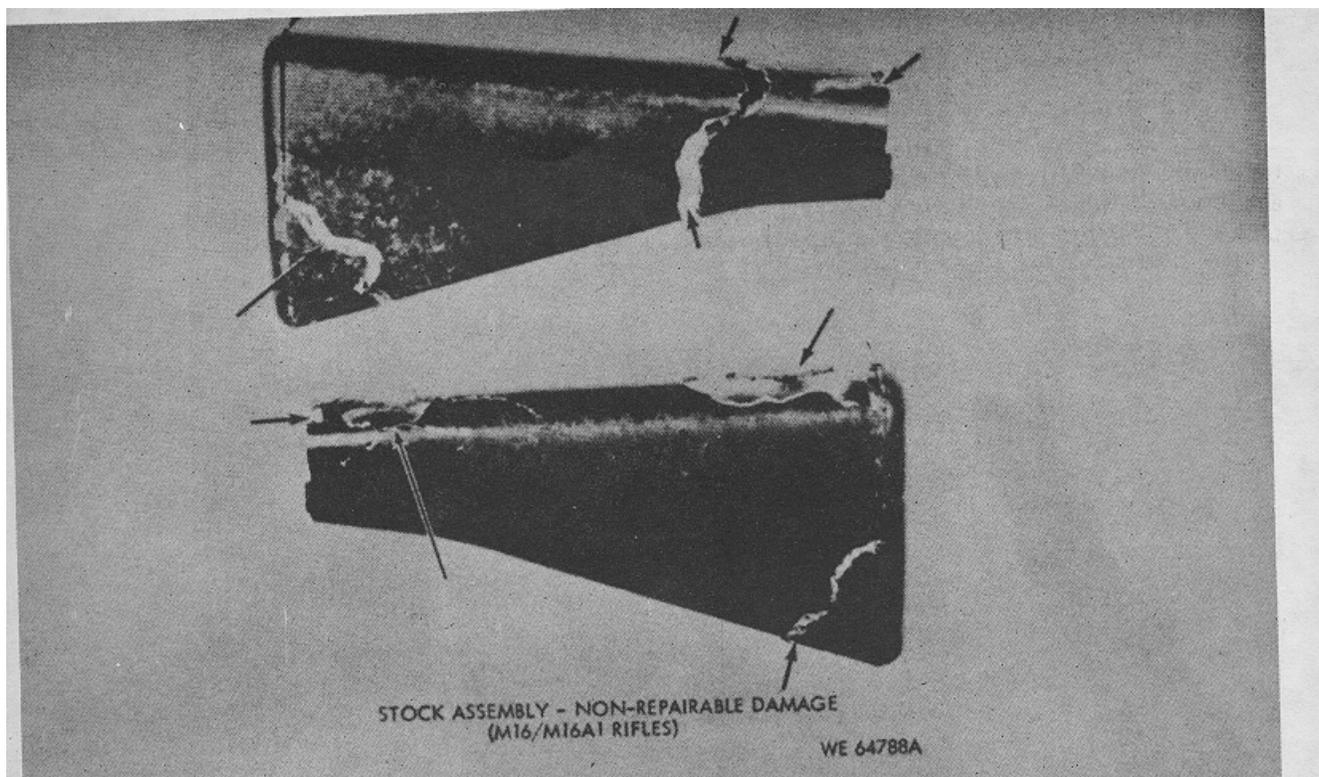
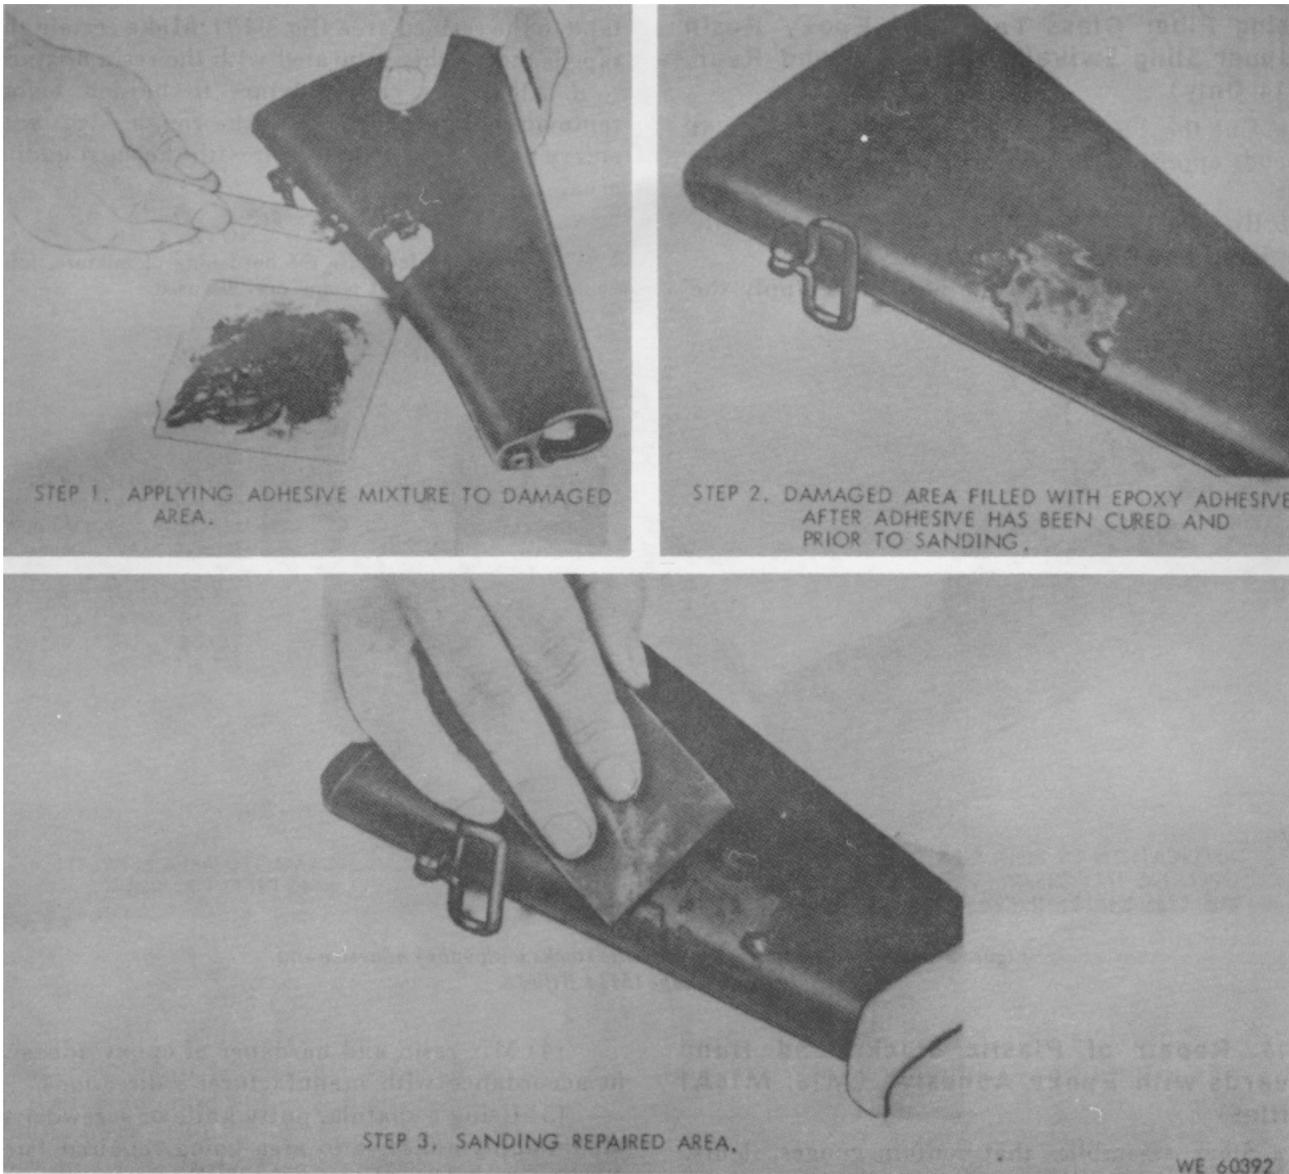

Figure 3-10. Non-repairable damage to fiber glass/plastic stock assemblies.
Figure 3-18. Repairing fiber glass / plastic stocks with epoxy adhesive (M16, M16A1 Rifles).
- (1) Stock assemblies damaged as indicated in figure 3-10 will be replaced.
- (2) Remove plastic from the damaged area exposing the styrofoam filler.
- (3) Slightly undercut the edges of the damaged plastic to permit the adhesive to expand under the edges of the area being repaired.
- (4) Mix resin and hardener of epoxy adhesive in accordance with manufacturer's directions.
- (5) Using a spatula, putty knife or screwdriver blade, apply adhesive to area being repaired (step 1, figure 3-18). Force the adhesive into the damaged area to eliminate air bubbles which may be trapped under adhesive.
- (6) Allow approximately one hour to harden (cure), depending upon climate conditions.
- (7) Using a flat medium cut file or No. 80 grit emery paper, remove the excess adhesive until flush with the stock surface (step 3, figure 3-18).
- (8) Apply approved black lacquer to repaired area.